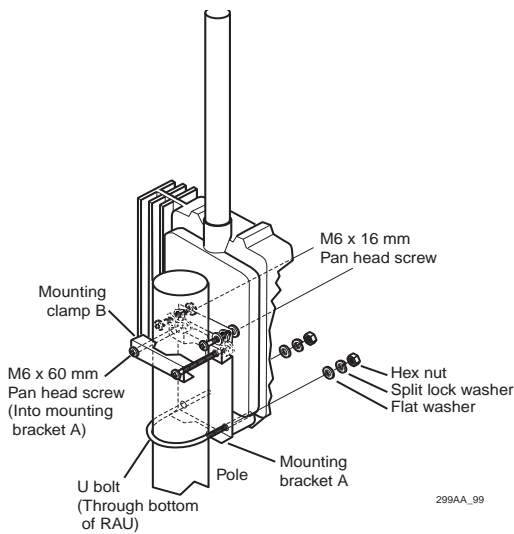

Figure 13. Attach the RAU to the pole
The installation kit contains the appropriate connectors for mounting the RAU to a pole ranging in size from 3.8 cm (1.50 inch) OD through 4.8 cm (1.90 inch) OD. The kit does not include the pole. To install the RAU on a pole, you will need the U bolt, assorted screws, and the metal mount (2 pieces). Figure 13 shows a typical pole mount.
1. Take the larger piece of the mount (mounting bracket A on Figure 13) and use the short M6 x 16 mm screws to attach the mount directly to the RAU, using the holes provided on the back of the RAU.
Washers are provided for the short M6 x 16 mm screws. Place the split lock washer next to the screw head followed by the flat washer before inserting the screws. Tighten the M6 x 16 mm screws to  $300 \pm 30$  N-cm ( $26.6 \pm 2.7$  in lb). Using Figure 13 as a placement guide, be sure that the large oval holes on the mounting pieces and the RAU are lined up.
2. Washers are provided for the long M6 x 60 mm screws. Place the split lock washer next to the screw head followed by the flat washer before inserting the screws. Using the smaller piece of mount (mounting clamp B on Figure 13), insert the two long M6 screws through it. As shown in Figure 13, connect the mounting clamp B with mounting bracket A using the long M6 screws to connect the two pieces.
3. Fit the U bolt through the oval holes in mounting bracket A, then insert the U bolt through the RAU until the threaded ends appear at the bottom front of the RAU. Place the large flat washers, the large split washers, then the hex nuts on the ends of the U bolt with stack-up shown in Figure 13 on page 18. (When the access cover is closed, the hex nuts on the U bolt will be hidden.)